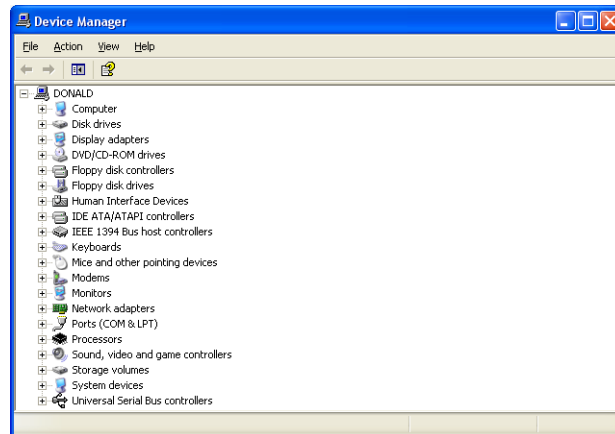

Figure 1-9 Device Manager
- Click **Hardware** and then **Device Manager** and the *Device Manager* appears (Figure 1-9).